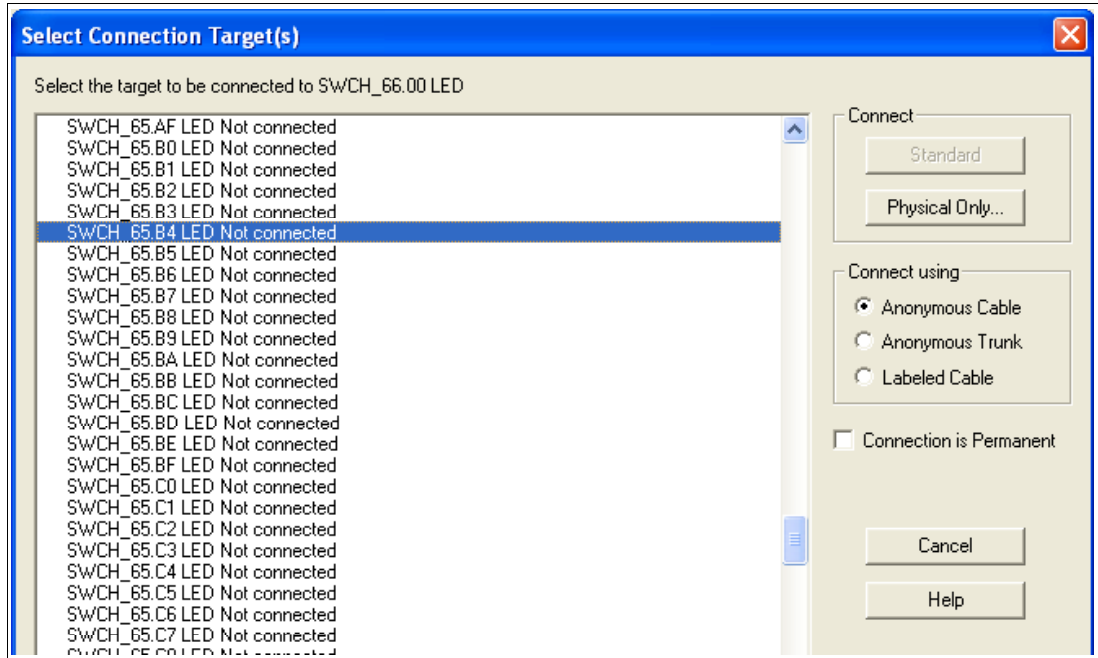

Figure 7-18 HCM Connect ISL ports
13. Expand the ports, highlight port B4, and then click **Connect** → **Physical Only**. Refer to Figure 7-18 on page 212.